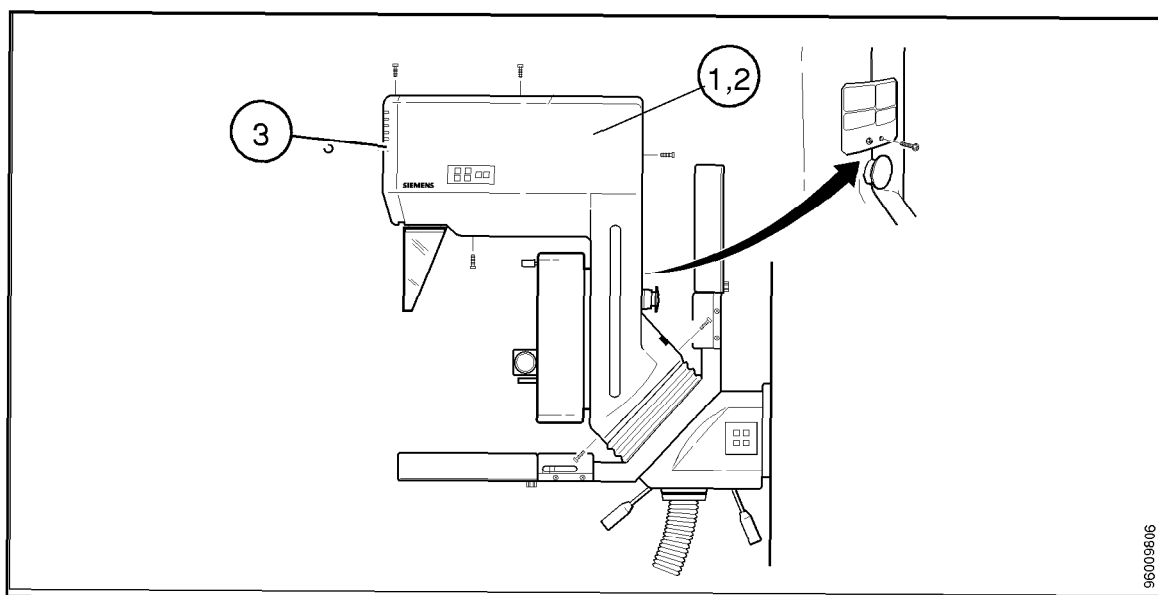

Fig. 1
- Remove the screws from the X-ray tube covers at the front, as well as the left and right sides (1, 2 and 3/Fig. 1).